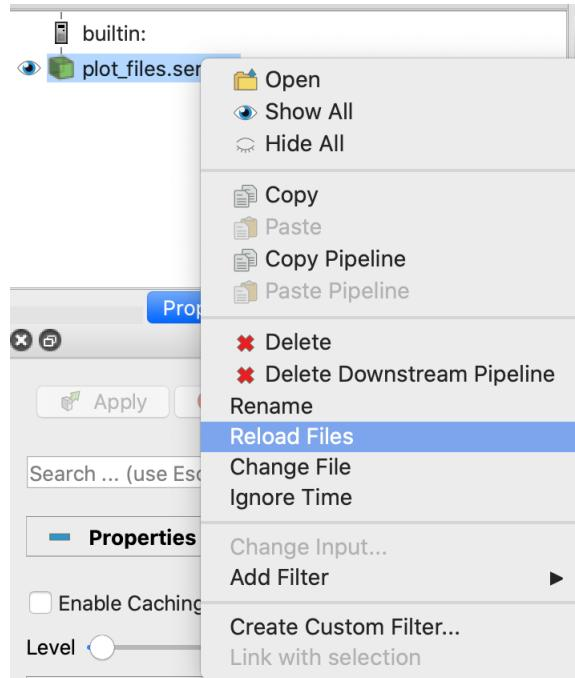
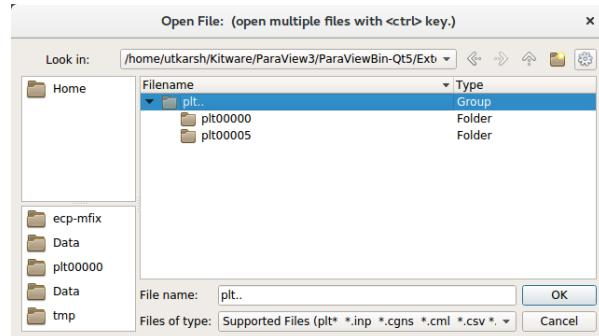

Fig. 18.2: : File dialog in ParaView showing how to reload a series file
Fig. 18.3: : File dialog in ParaView showing a group of plotfile directories selected
2. Navigate to your run directory, and select the fluid or particle plotfile. Note that you can either open single/multiple plotfile(s) at once by selecting them one by one or select an ensemble of file, labelled as `plt..` and indicated as a Group in the “Type” column of the file explorer (see Fig. 18.3). In the later case, Paraview
Open ParaView, and then select “File” → “Open”. In the “Files of Type” dropdown menu (see Fig. 18.3) choose the option `All Files (*)`. Then choose `plot_files.series` and click “OK”. Now the plotfiles have been loaded as a Group as in Step 2 of section *ParaView*. Now, you can follow the steps 2 to 7 in the section *ParaView* to plot. As new plotfiles are generated, just re-run the bash script to re-generate the `plot_files.series` file, right-click on `plot_files.series` in the ParaView menu, and click on “Reload Files” (see Fig. 18.2).
1. Run ParaView v5.7, and select then “File” → “Open”. You will see a combined “plt..” group. Click on “+” to expand the group, if you want inspect the files in the group. You can select an individual plotfile directory or select a group of directories to read them a time series, as shown in Fig. 18.3, and click OK. ParaView will ask you about the file type – choose “AMReX/BoxLib Particles Reader”.